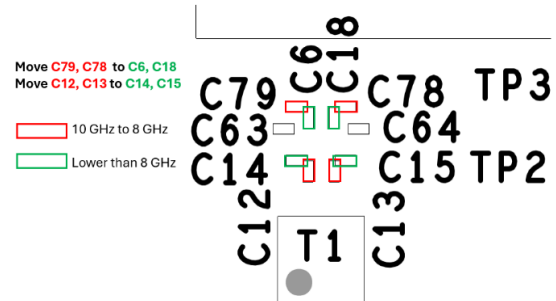

Figure 4. On-Board Clock Required Changes to Operate a Clock Frequency of Less Than 8GHz
- ▶ Figure 4 shows the on-board clock changes required to operate a clock frequency of less than 8GHz. The mounted C79 and C78 capacitors must be moved to where the C6 and C18 capacitors are, and the C12 and C13 capacitors must be moved to where the C14 and C15 are. Additionally, C87 and C88 must be mounted with 22nF capacitors.